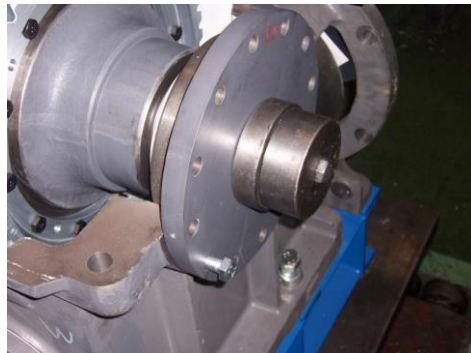

Figure 49 Bearing Gland replacement
1. Tighten the bottom gear case and the Bearing Gland with the bolts M16x50 (2 groups); tighten the bottom gear case and the Spindle Through Cover with the bolts M16x60 (2 groups). See Figure 49.